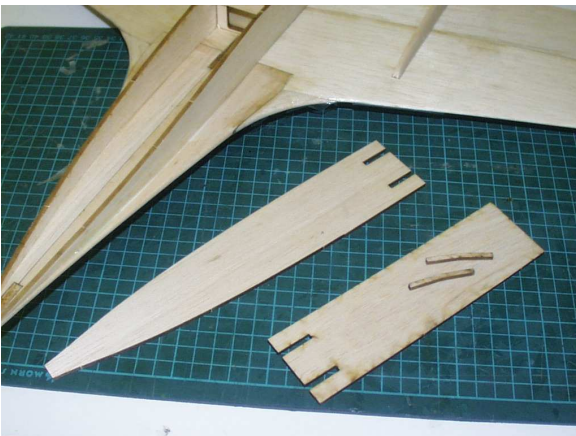

Figure 4.9: Four parts of the deck
- The hatch is made of four (4) pieces.
- (See figure 4.9)